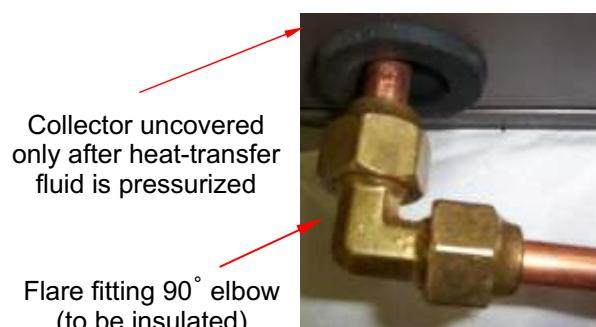

Fig. 6.5.2 – Flare fitting 90° elbow connects line-set to collectors (to be insulated after pressurizing heat-transfer fluid).
- Carefully bend line-set tubes down between collectors such that flare fitting 90° elbows will reach collector tubes (Fig. 6.5.2). A proper tube-bender should be used for tight bends.